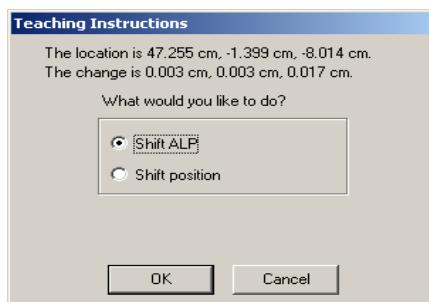

Figure 8. New framing coordinate for the STB1.
- 2.18 Go through all of the same steps to frame the STB1 position. When the new coordinates have been measured, a window will pop up with the new coordinates, as shown in Figure 8.